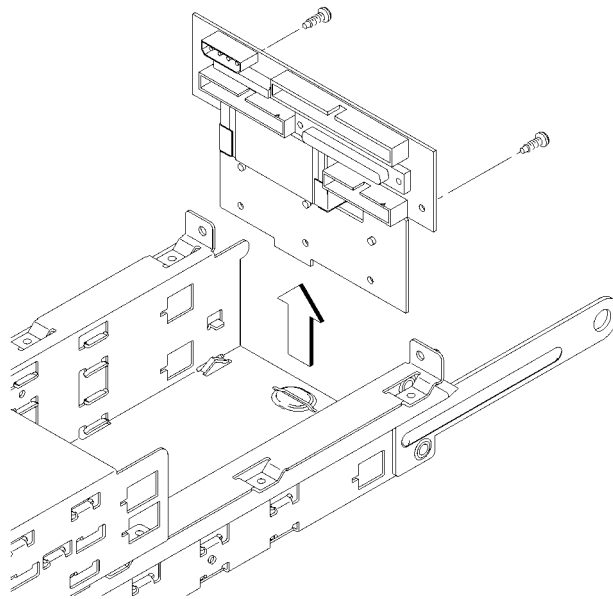

Figure 31
- 1 Remove the two retaining screws from the disk interconnect board, as shown in Figure 31.
- 3 Hold the disk interconnect board on the edges and lift it straight up to remove it, as shown in Figure 31.